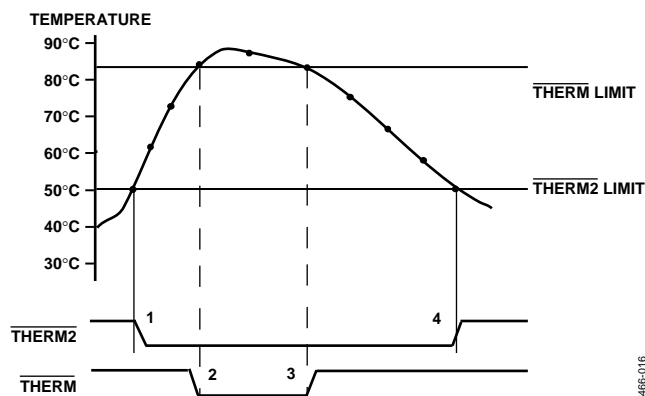

Figure 21. Operation of the $\overline{\text{THERM}}$ and $\overline{\text{THERM2}}$ Interrupts
Figure 21 shows how $\overline{\text{THERM}}$ and $\overline{\text{THERM2}}$ might operate together to implement two methods of cooling the system. In this example, the $\overline{\text{THERM2}}$ limits are set lower than the $\overline{\text{THERM}}$ limits. The $\overline{\text{THERM2}}$ output could be used to turn on a fan. If the temperature continues to rise and exceeds the $\overline{\text{THERM}}$ limits, the $\overline{\text{THERM}}$ output could provide additional cooling by throttling the CPU.
- The $\overline{\text{THERM}}$ output de-asserts (goes high) when the temperature falls to $\overline{\text{THERM}}$ limit minus hysteresis. In Figure 21, there is no hysteresis value shown.